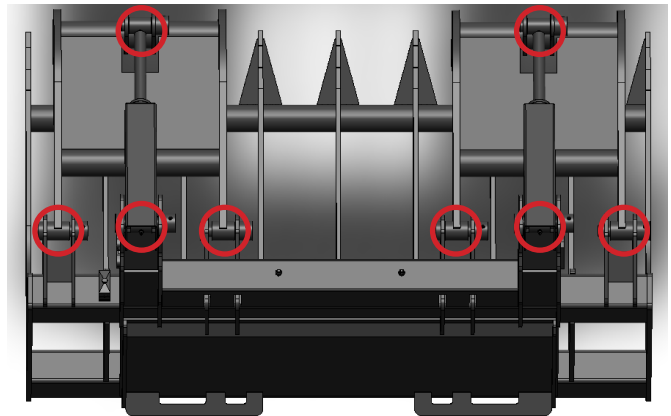

Figure 1
The Extreme Duty High Capacity Root Grapple has eight (8) grease points. These points are circled in Figure 1.